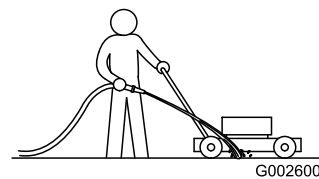

Figure 51
2. With the engine running and the blade engaged, spray a stream of water in front of the **right** rear wheel (Figure 51).